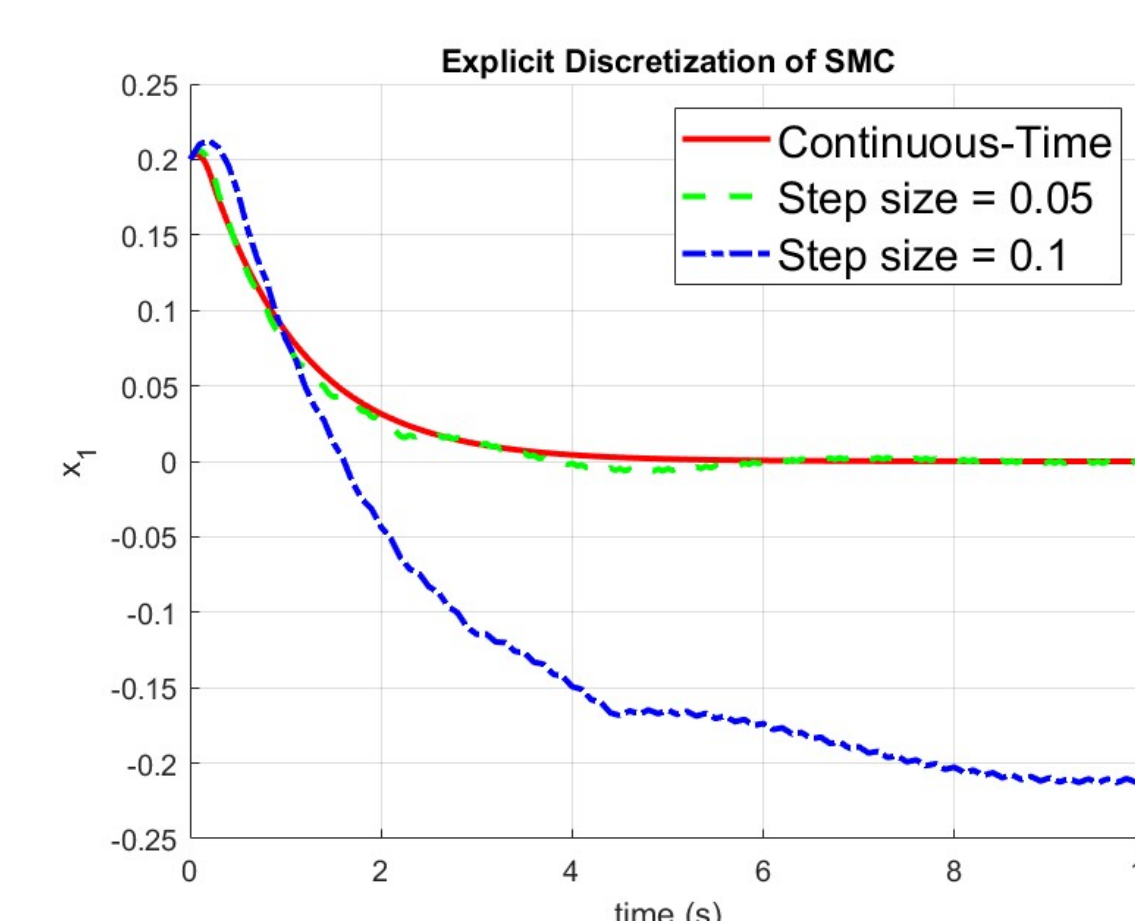
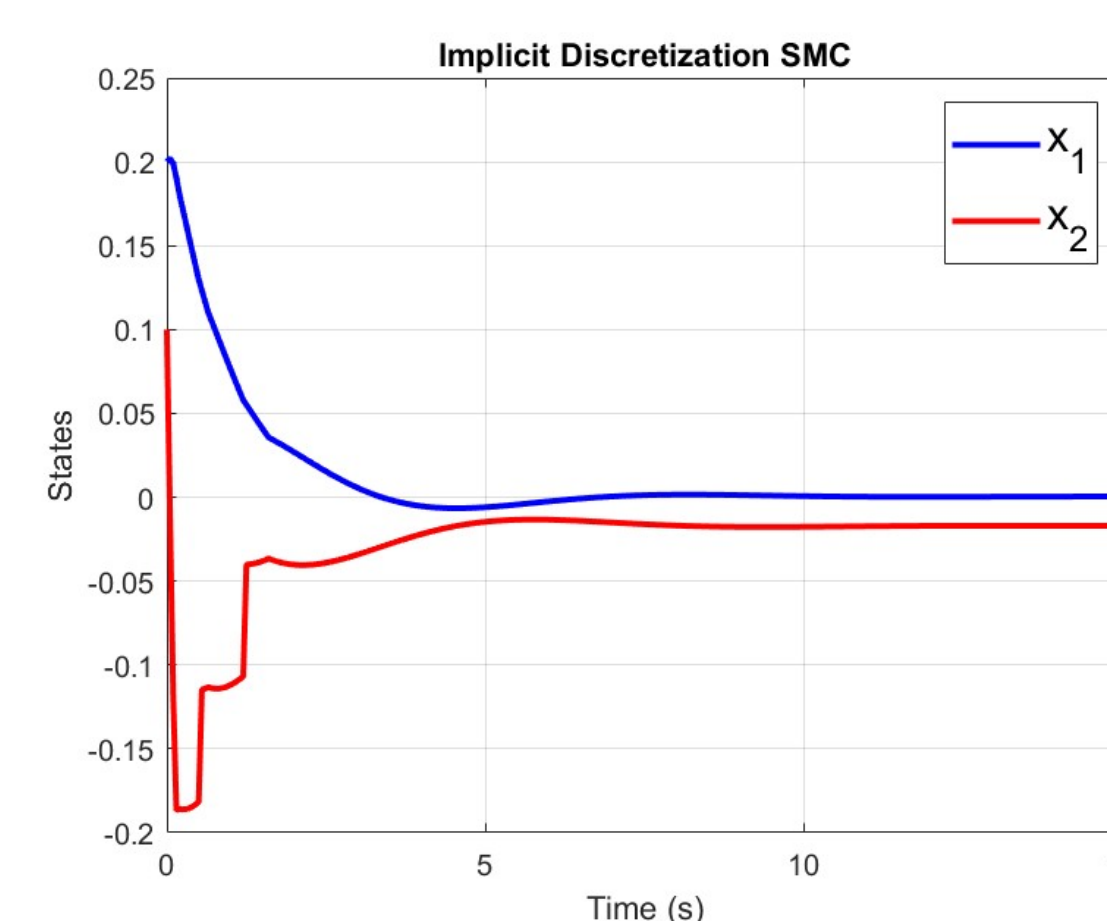

Figure 2. Explicit discretization of SMC of x_1 vs. time
Figure 3. Implicit discretization of SMC of x_1 and x_2 vs. time
- Figure 3 shows the angular position and velocity vs. time when using the implicit Runge-Kutta method with a step size of 0.05.
- Figure 2 represents the continuous and explicit discretization graph of angular position (x_1) with continuous time, a step size of 0.05 and a step size of 0.1.
- Preliminary simulations agree with the fact that implicit discretization allows for less chattering than explicit discretization as can be seen in Figure 2 and Figure 3